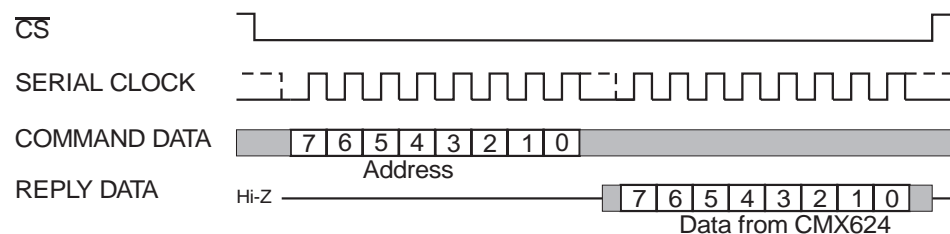

Figure 5: Serial Bus Transactions (One Address byte from μC and one Reply byte from CMX624A)
2. A single byte of data read out from one of the CMX624's Read Only Registers, as illustrated in Figure 5.